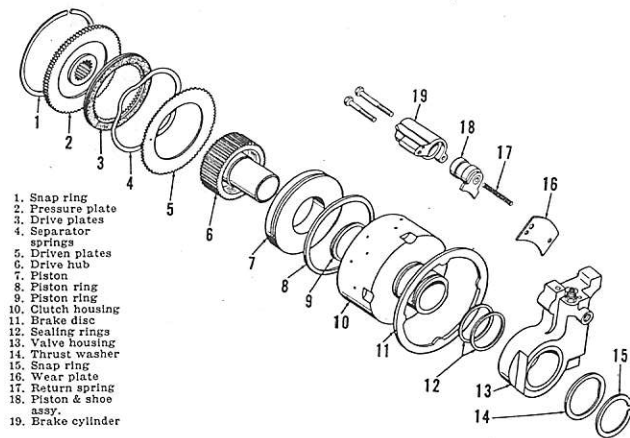

Fig. 260—Exploded view of IPTO multiple disc clutch and hydraulic brake unit.
237. IPTO CLUTCH & VALVE UNIT. To disassemble the removed IPTO clutch and valve unit, place the assembly on a bench, valve (front) side down. Remove snap ring (1—Fig. 260), drive plates (3), separator springs (4) and driven plates (5). Lift out drive hub (6). Using two pairs of pliers, grasp strengthening ribs of piston (7) and lift out piston.
When assembling the clutch unit, use assembly tool kit (MFN 768) for installing the piston as shown at (T—Fig. 263). If assembly tool kit is not available, cut 5 or 6 two-inch pieces of $\frac{1}{4}$ inch rod to serve as a guide when installing clutch piston. With piston in place, install center hub (6—Fig. 260) and beginning with exter-
then install pressure plate (2—Fig. 260) and snap ring (1). The restraining Allen wrenches can be removed at this time.